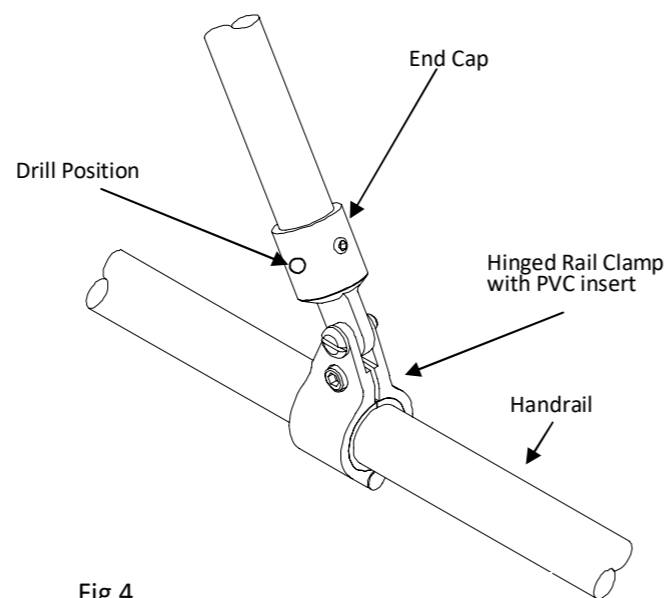

Fig 4
- Fit the End Caps to the pole using the guy brackets supplied with the pole kit (see Fig.3) and the Hinged Rail Clamps and End Caps to the rail in the desired position (see Fig.4).
- Attach the Hinged Rail Clamps to the rail in approximately the correct position with the PVC spacer between the clamp and rail-do not tighten at this stage (Fig.4).